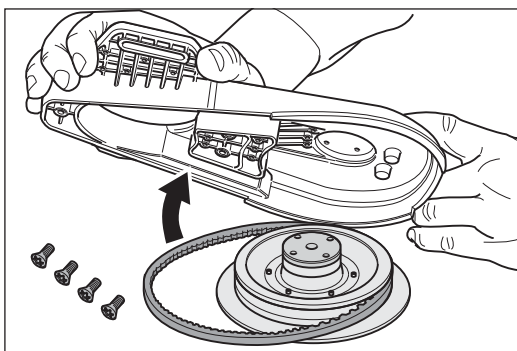

Fig. 43 Remove the attachment from the complete sanding plate.
- 10 Remove the attachment from the complete sanding disc (fig. 43).